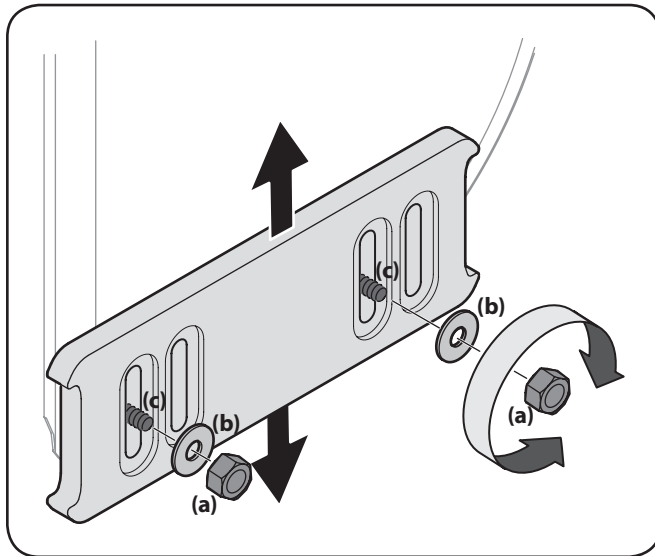

Figure 3-12
1. Loosen the four flange lock nuts (two on each side), flat washers, and carriage screws. Move skid shoes to desired position. See Figure 3-12.
NOTE: The skid shoes on your snow thrower may look slightly different (and have different hardware) than the ones shown in Figure 3-12.